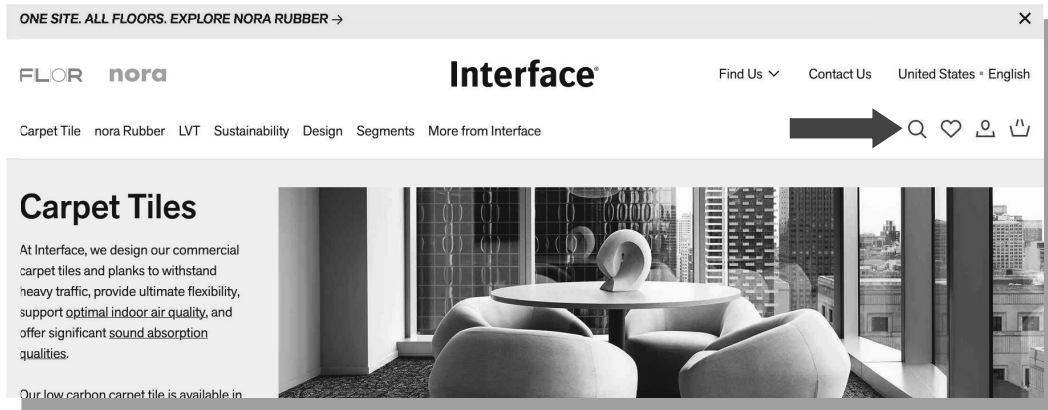

FIGURE 4-3.4 Interface website: <https://shop.interface.com/US/en-US/carpet-tile/>
11. Select your region, e.g. *Americas\United States*, and then click the **Search** link (Figure 4-3.4).